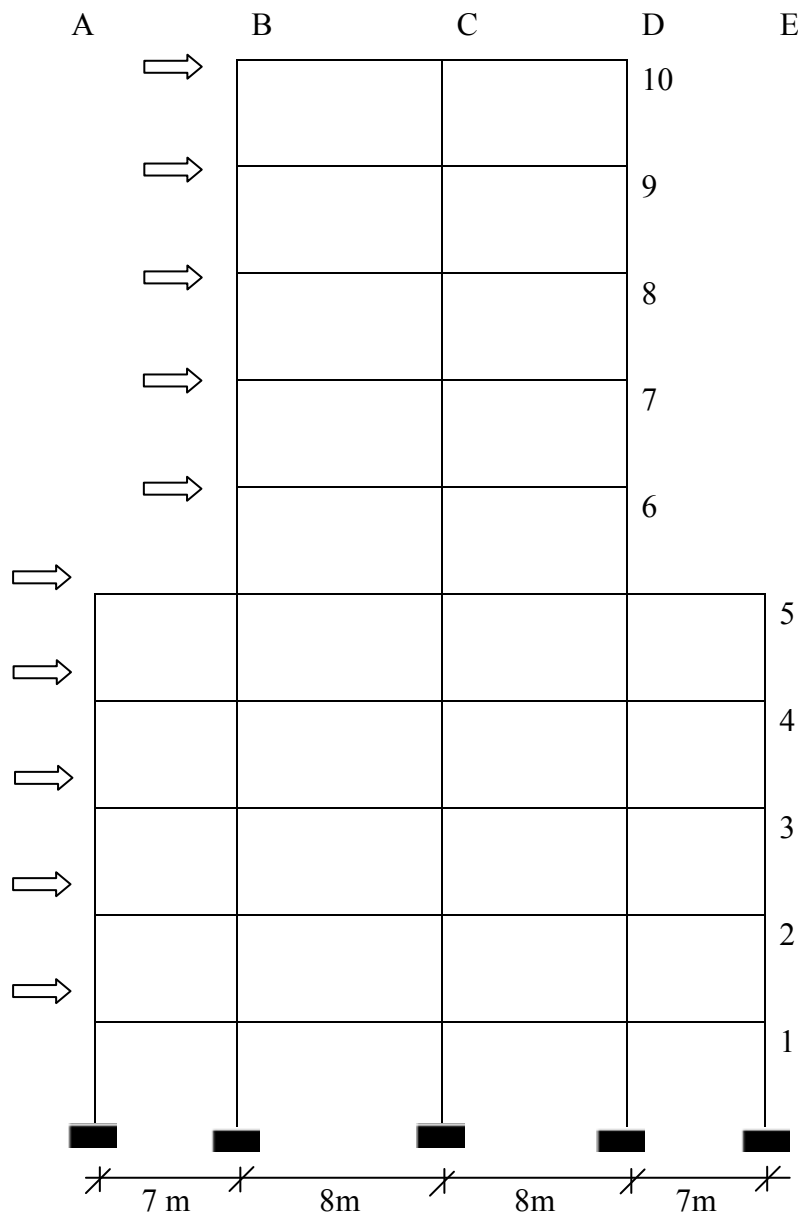

Figure 1
b) Ten-storey steel frames as shown in Figure 1 reflects the terrain category 3 in Seremban with the basic wind speed of 33.5 m/s. Calculate the value of the design wind force at fifth floor and roof levels of the frame according to MS1553:2002. The storey height is typically 3.0 m, to give a total height of 24m. The frames are spaced at 8m, the width of building is 30m and the length is 40m. Please indicate all assumed values used in the calculations.